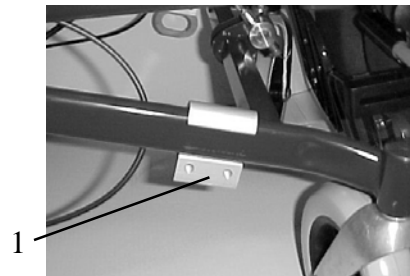

fig. 2
- Place the fastening (1) onto the side bar of the wheel frame as shown in Figure 2.